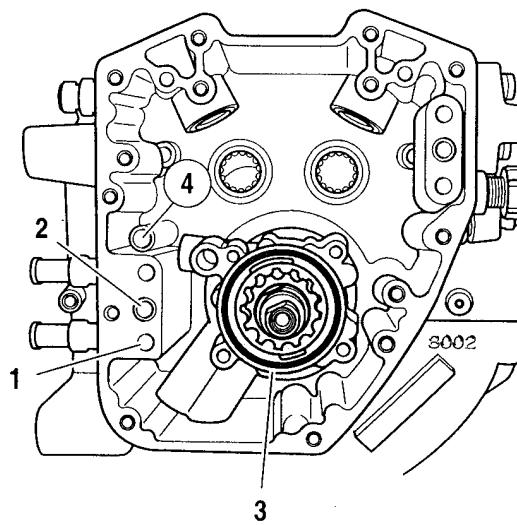

Figure 3-65. Oil Feed Hole
- g. See Figure 3-65. Apply a very thin film of clean H-D 20W50 engine oil to **new** O-ring (3) for outboard side of oil pump housing. Install **new** O-ring in groove on oil pump housing.
- h. Apply a very thin film of clean H-D 20W50 engine oil to **new** O-ring (4) for crankcase post. Install **new** O-ring in groove on crankcase post.
1. See Figure 3-65. Apply a very thin film of clean H-D 20W50 engine oil to new O-ring (1) for crankcase flange. Install new O-ring in groove around oil feed hole directly below rear ring dowel (2).